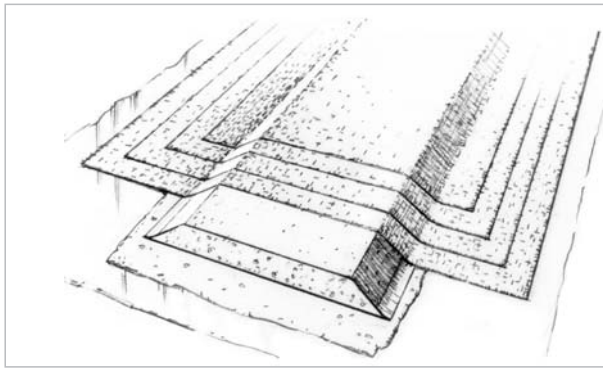

Figure 3-6 *End-grained balsa or high-density foam core material is useful for reinforcing large panel areas.*
3. Prepare the core material and fabric. Cut the core material to size. Round the corners and bevel the edges of the core material to reduce stress concentrations. Cut four or five pieces of fiberglass cloth, each piece an inch or two shorter on each side than the one before. The smallest piece of fabric should overlap the core material by 2" (5cm) on each side (*Figure 3-6*).